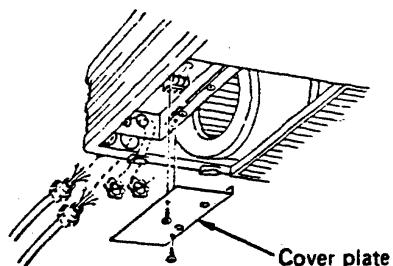

Fig. 15
c) Unscrew the cover plate of the electrical component box. Fig. 15